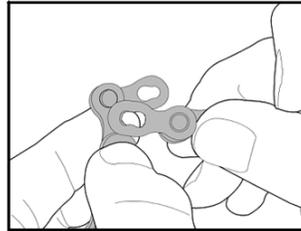

Fig.6
6. Pull the plates apart. (Fig.6)